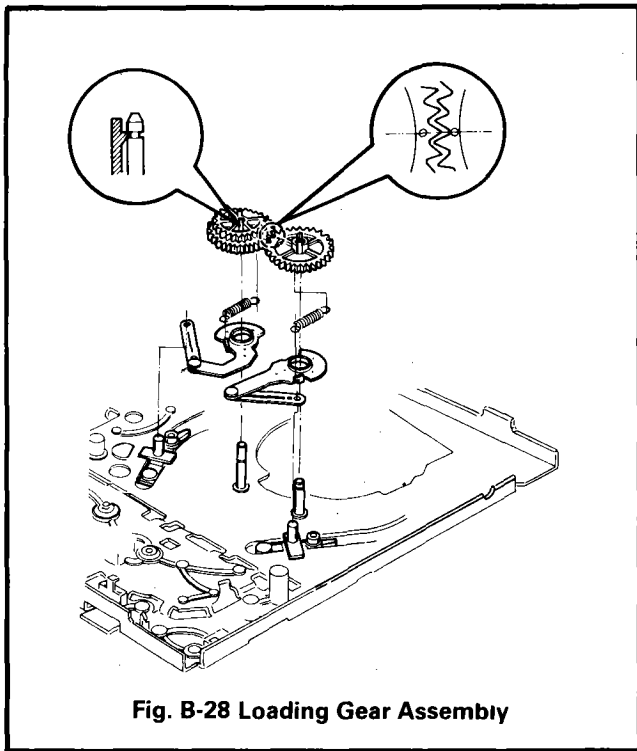

Fig. B-28 Loading Gear Assembly
- 1) When reassembling the groove of Lower part of Function Plate should be aligned with the shaft of Tension Lever Assembly(Fig. B-28).
- ① Use a Hexagonal wrench to remove set screw.
- ② Take notice that the P2 and P3 Slant Assembly should not be changed from their original place.
28. Loading Gear Assembly (L), (R) (Fig. B-28)